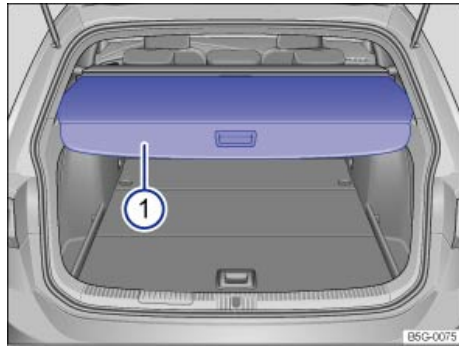

Fig. 91 In the luggage compartment: Closing the luggage compartment cover.
- Push the rear area of the luggage compartment cover ⇒ fig. 91 \(1\) downward slightly. The luggage compartment cover will retract automatically to the center position.